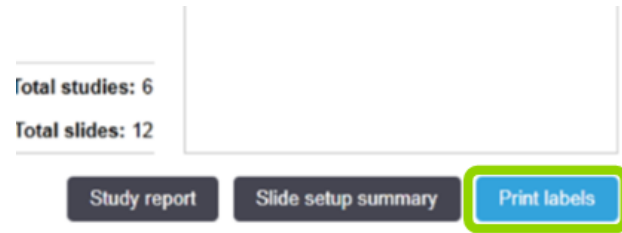

Figure 66: Print labels button
9. Click **Print Labels** (see Figure 66).